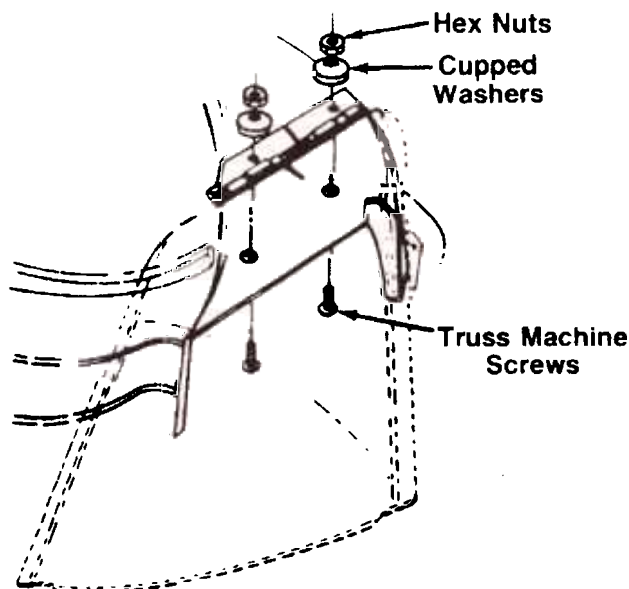

FIGURE 8.
2. Place the chute deflector in position as shown in ← figure 8. Secure with hardware just removed.